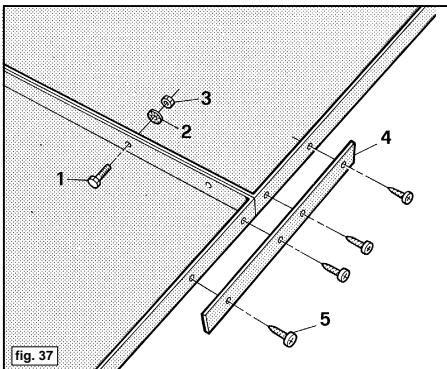

fig. 37
**23** (fig. 37) Join the panels by means of the screws 1, washers 2 and nuts 3, reinforcing them at the bottom with the metal plates 4 secured with the screws 5.